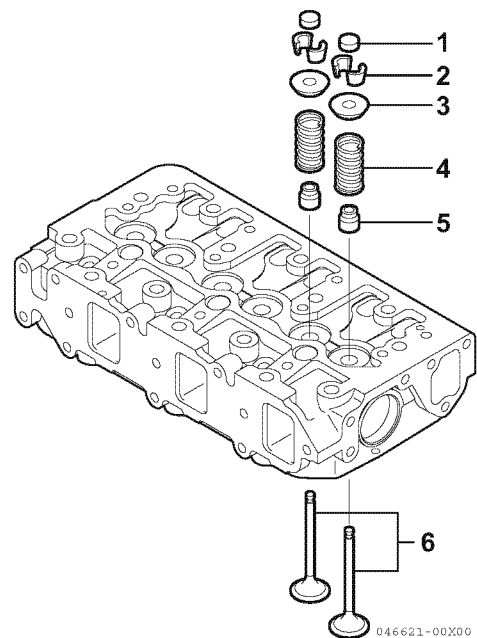

Figure 6-29
4. Place all the valves (6, **Figure 6-29**) in their proper location in the cylinder head.
5. Place the cylinder head on the workbench with the combustion side down to install the valve springs. Install the valve spring (4, **Figure 6-29**) and the spring retainer (5, **Figure 6-29**).
7. Insert the valve keepers (2, **Figure 6-29**) and slowly release the tension on the valve spring. Install the valve cap (1, **Figure 6-29**). Repeat the steps on all the remaining valves.